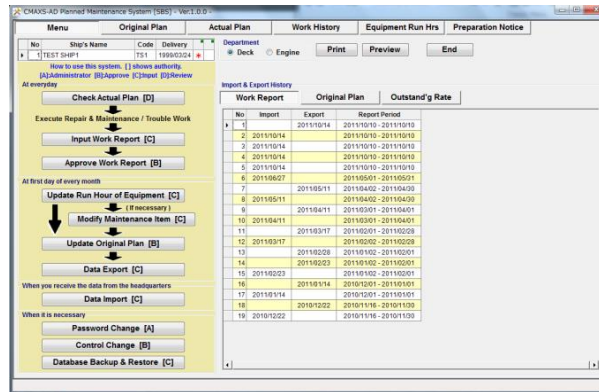

Fig.16-4 Menu Screen
- (1) On the “Menu”screen(Fig. 16-4) Select “Outstand'g Rate” in “Import & Export History” area.